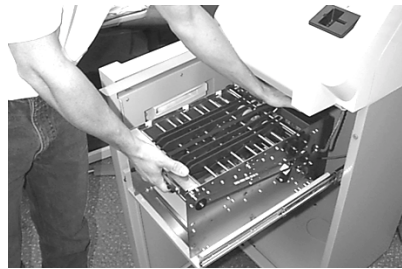

Figure 4. Installing the dispensing mechanism.
7. Refer to Figure 4. Install the dispensing mechanism by sliding the end with the circuit board into the tray in the cabinet. The mechanism should slide under two tabs in the rear, and the front edge slots should align with the two bolts provided with wing nuts. Once the mechanism is fully engaged into the tray, tighten the wing nuts by hand.